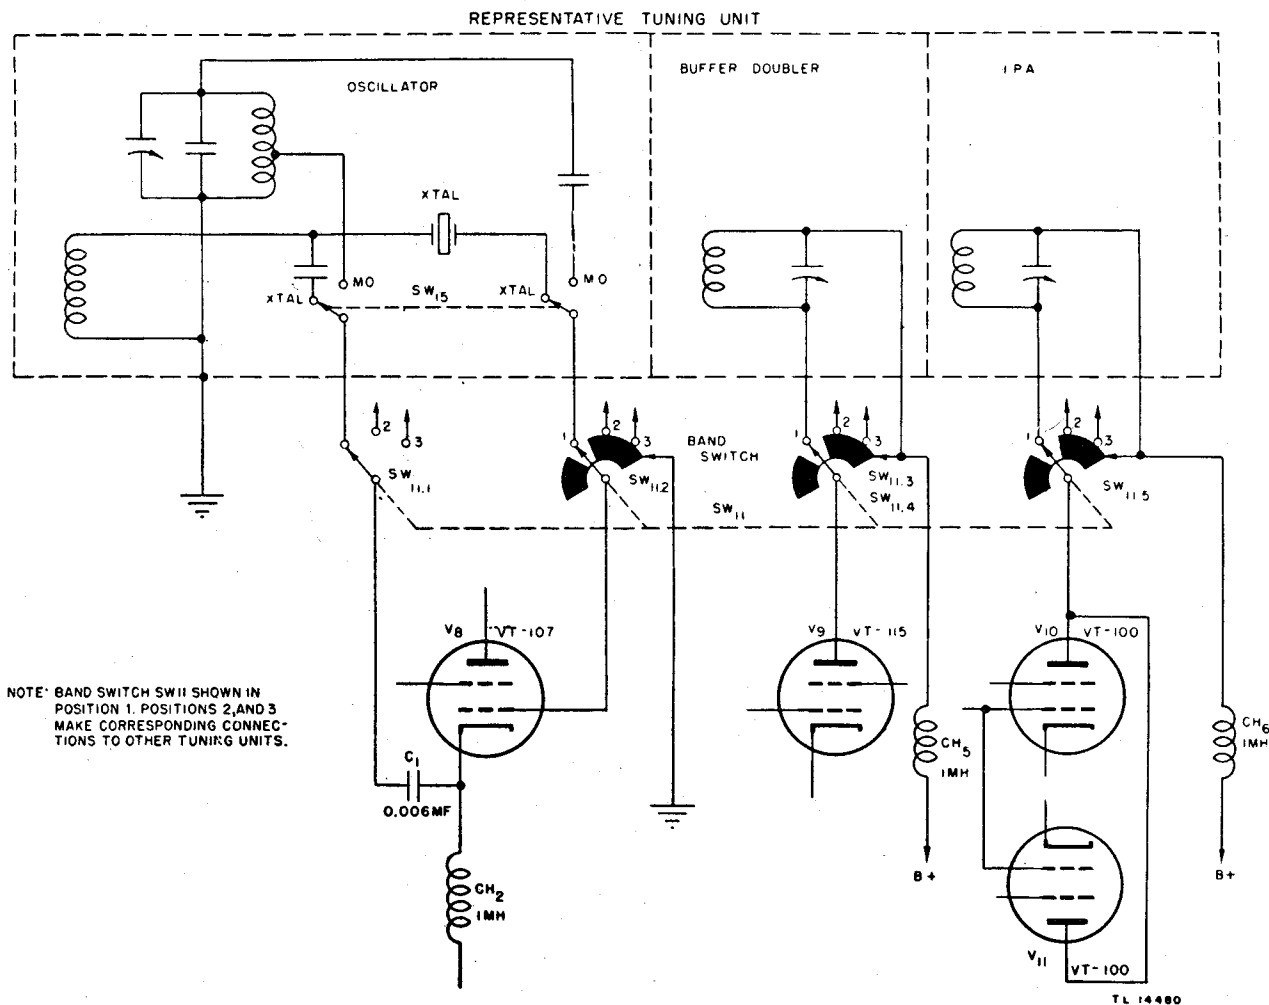

Figure 70. BAND SWITCH—functional diagram.
f. BAND SWITCH  $SW_{11}$  (fig. 70). Switch  $SW_{11}$  is a four-section, three-position switch, controlled from the front panel of the transmitter by a knob marked BAND SWITCH. Its purpose is to provide selection of any one of three tuning units which have been set to a predetermined frequency. The switch sections are numbered (on the functional schematic diagram)  $SW_{11-1}$ ,  $SW_{11-2}$ ,  $SW_{11-3}$ , and  $SW_{11-4}$ . Section 1 is the section nearest the front panel of the transmitter. Switches  $SW_{11-1}$  and